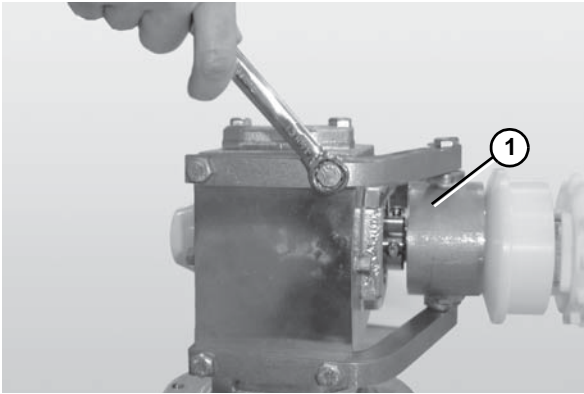
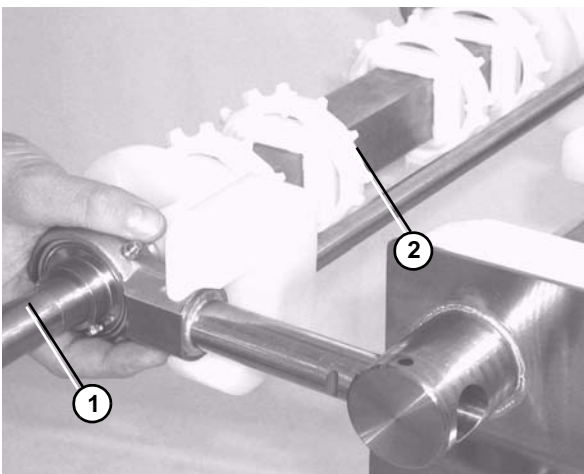

Figure 57
Figure 59
4. Unbolt the drive assembly and slide it off the bearing spindle (**Figure 57, item 1**).
6. Slide the drive tail assembly out of the take up blocks (**Figure 59**).
7. Slide the motor support bracket (**Figure 57, item 1**) off the drive spindle (**Figure 59, item 1**).
8. Remove the sprockets (**Figure 59, item 2**).